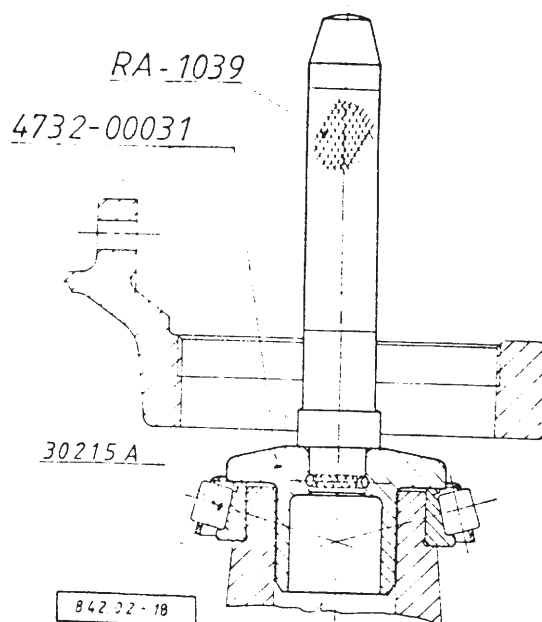

Fig. 2.: DRIVING ON THE TAPER ROLLER BEARING CONE
Position the cone of the taper roller bearing (19) to the differential case half (24) and by means of the tool shown drive on to bottom out (see Fig. 2.).